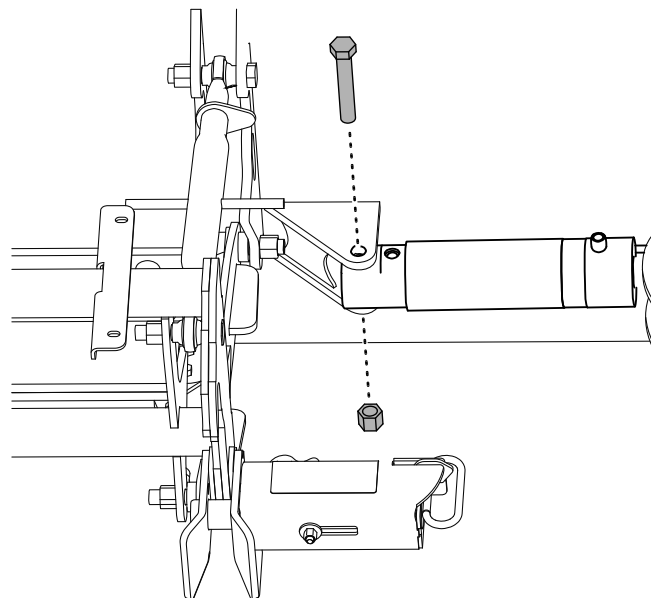

**Figure 10**
- Loosely attach the body end side of the lift cylinder to the coupler assembly using 2 bolt (5/8 x 4-1/2 inches) and 2 locknuts (5/8 inch) as shown in Figure 10.